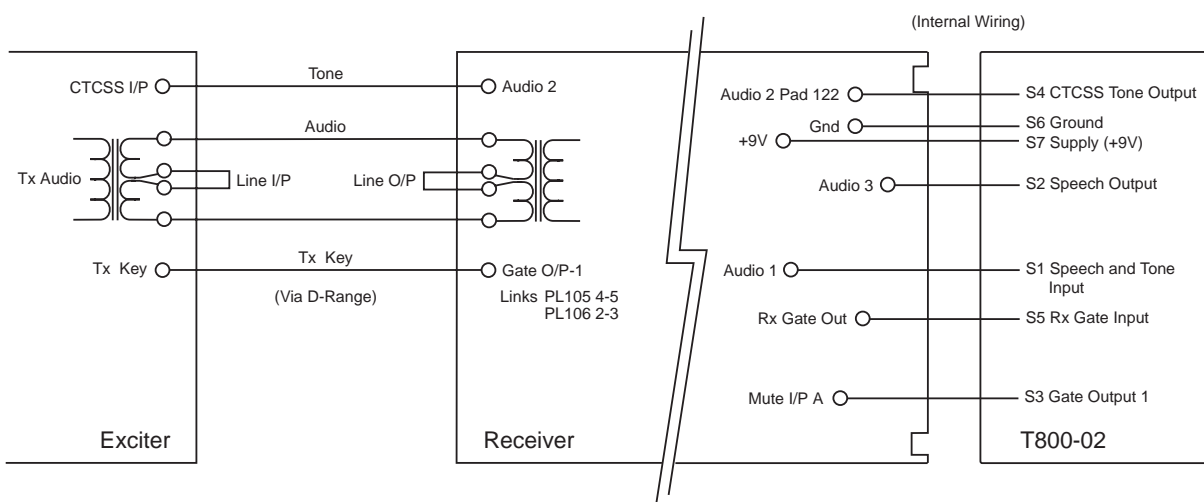
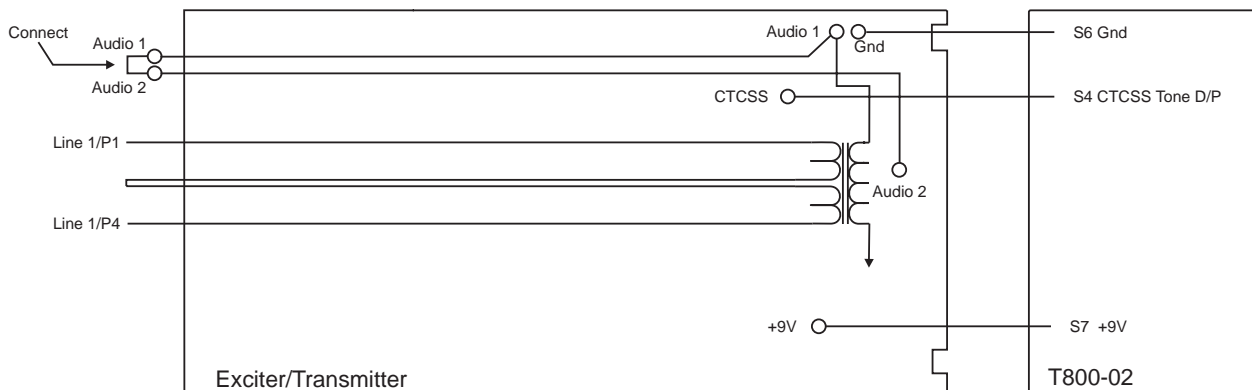
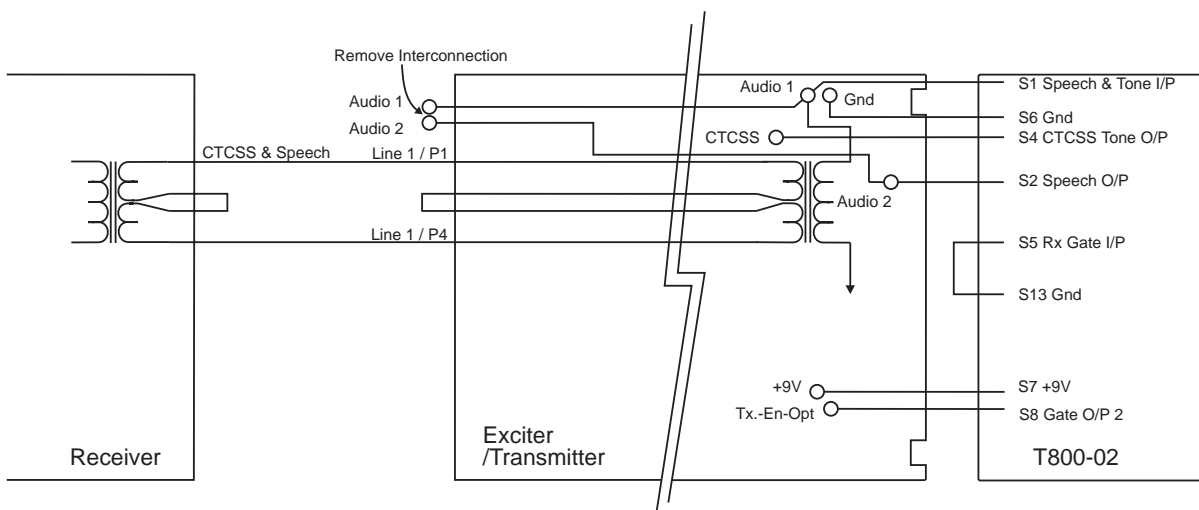

Figure 2 Receiver CTCSS Wiring Details
Figure 3 Transmitter CTCSS Wiring Details
Figure 4 Talk Through Repeater Wiring
2. Connect the T800-02 to the audio and power supply points in the audio processor as shown in Figure 2 (receivers) or Figure 3 and Figure 4 (transmitters).